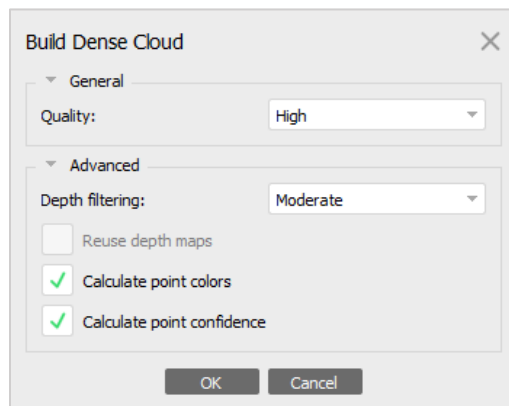

Figure 26. Build Dense Cloud window with settings for building the dense cloud as described in step 1.
1. Right-click on the SPC & DPC - Optimized chunk and select Process, then Build Dense Cloud. Change the settings as shown in Figure 26, and click OK.